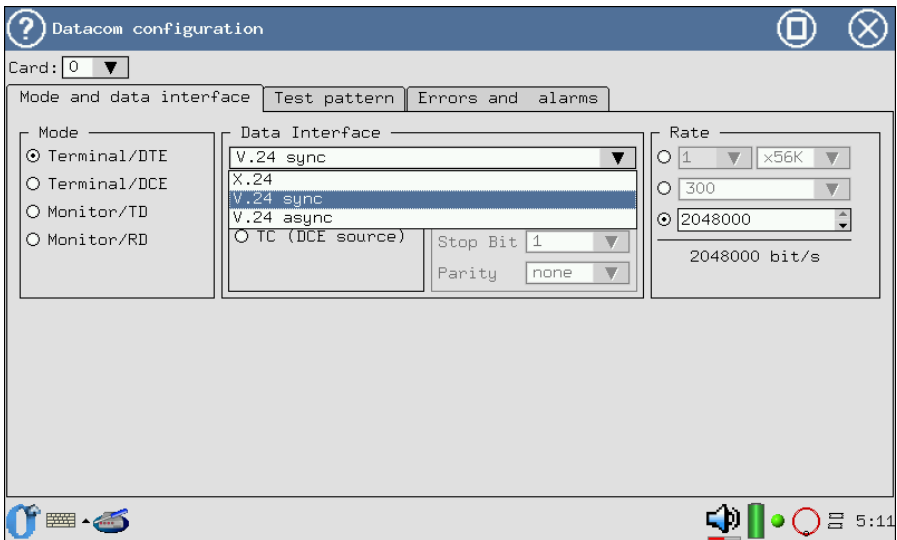

Figure 3.3. Interface Type Selection
4. The **Data Interface** field allows to select interface type according to the data protocols used (Figure 3.3):